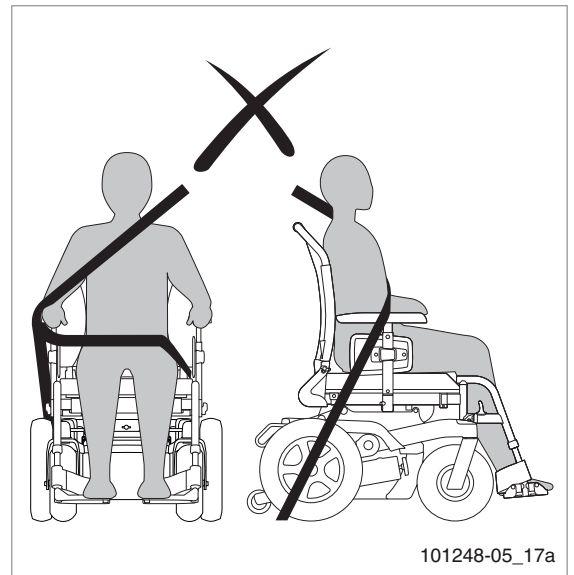

Figure 15
- Ensure that the seat belt is not obstructed from having contact with the body by wheelchair parts, such as armrests or wheels (figure 15).